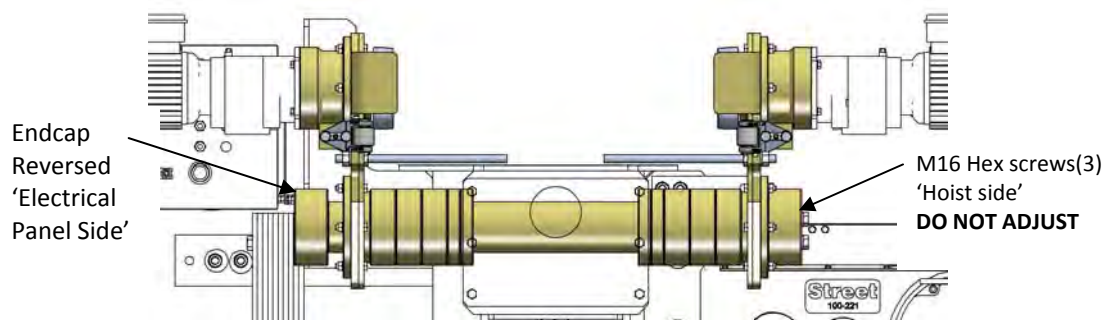

Figure 26 – Endcap reversed and refitted
- Refit the Endcap but in reverse, see Figure 26 below, tighten the M16 Hex screws (3), torque 20Nm. This gives space on the axle to allow the Trolley Plates to be positioned wider than the beam flange.